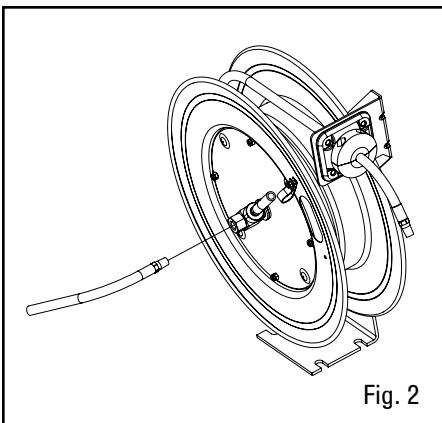

Fig. 2
2. Connect supply line hose to main shaft input (fig. 2).